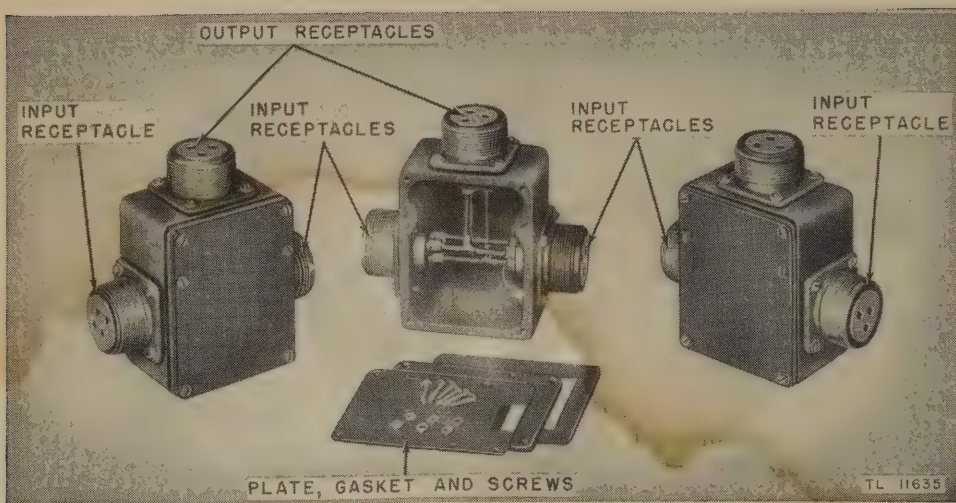

Figure 6. Junction Box JB-91-A.
f. JUNCTION BOX JB-91-A (fig. 6). Junction Box JB-91-A is a  $1\frac{3}{4}$ - by  $3\frac{7}{16}$ - by  $1\frac{7}{8}$ -inch bronze casting with three cable connector receptacles and internal interconnection wiring. A cover plate is held by six screws and lock-washers, and a rubber gasket keeps out moisture. Color-code markings adjacent to the cable receptacles correspond to the color coding of the cable that should be connected to each receptacle (par. 39).